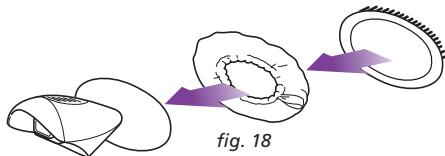

fig. 18
- 3 Snap the bristle frame over the Garment Steamer attachment. For ease of use, we recommend that the bristles be placed at the top of the Garment Steamer bonnet. (fig. 18)